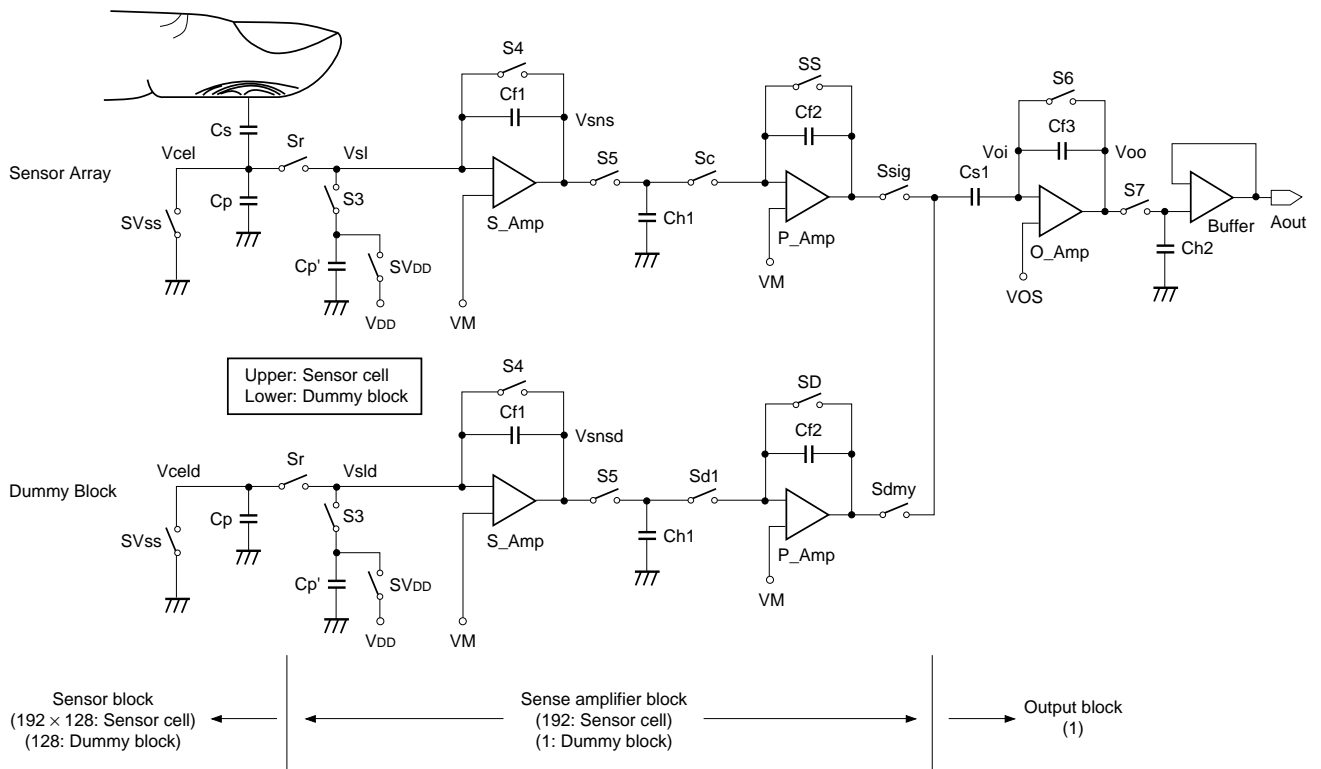

Fig. 2
• Fingerprint sensor operation (Fig. 2)